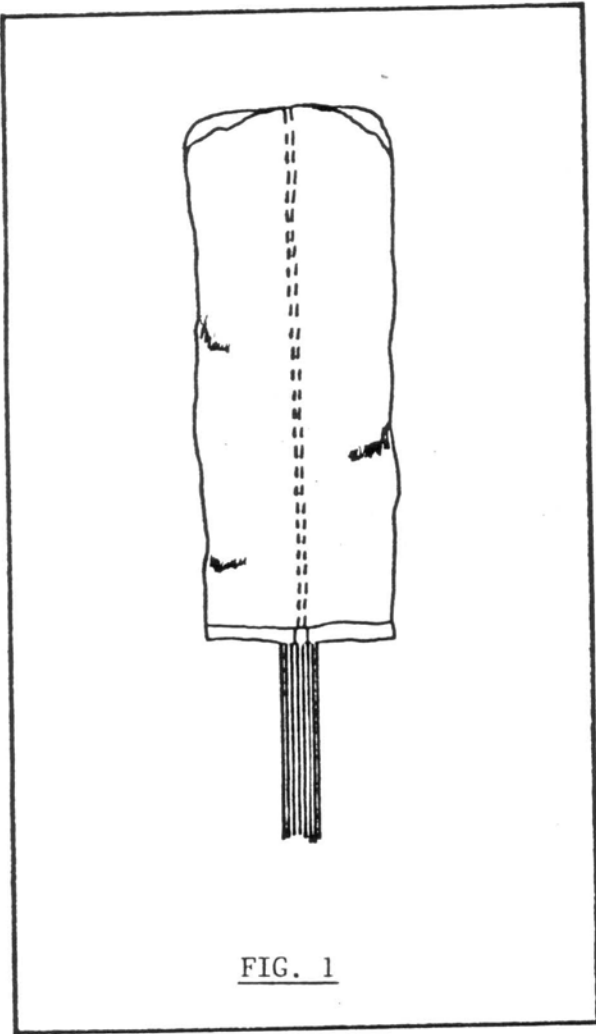
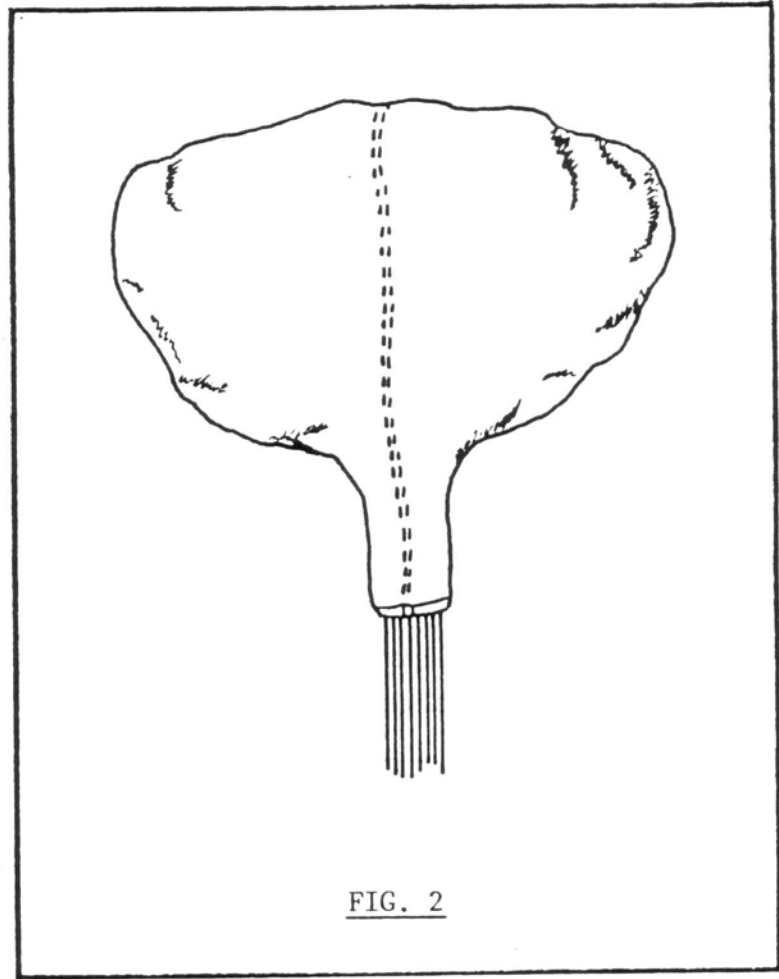
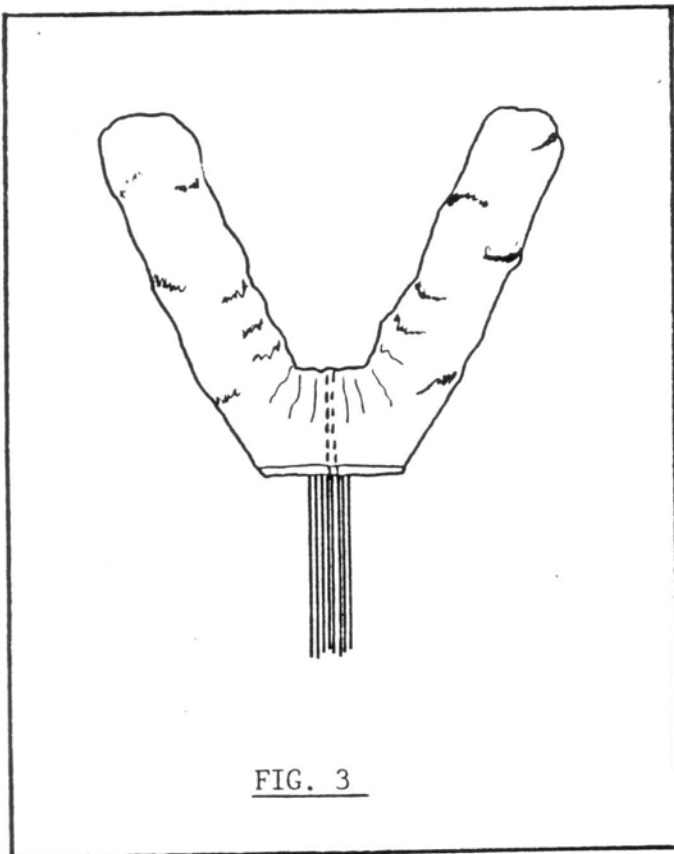

FIG. 1
FIG. 2
FIG. 3
- 2) Attach the bridle to the apex of the reserve canopy. The smaller loop of the bridle should be used at the apex, and the loop should be tacked securely with enough slack so that the loop will not bind the apex lines. The apex lines must be able to move freely thru the bridle attachment (FIG. 1). The large loop of the bridle must then be attached to the pilot chute. (Only the JAVELIN reserve pilot chute may be used with the JAVELIN harness/container system. Do not substitute any other pilot chute.)
- 3) If the manufacturer of the ram-air reserve canopy uses a "conventional" packing method, the canopy should look similar to FIG. 1 after it has been flaked and folded. If the manufacturer of the ram-air reserve canopy recommends the "PRO-PACK", the canopy will resemble FIG. 2. In either case, it will be necessary at this point to spread the top end of the canopy into halves by pushing down into the center from the top and spreading it outward into a "V" shape. (See FIG. 3.)